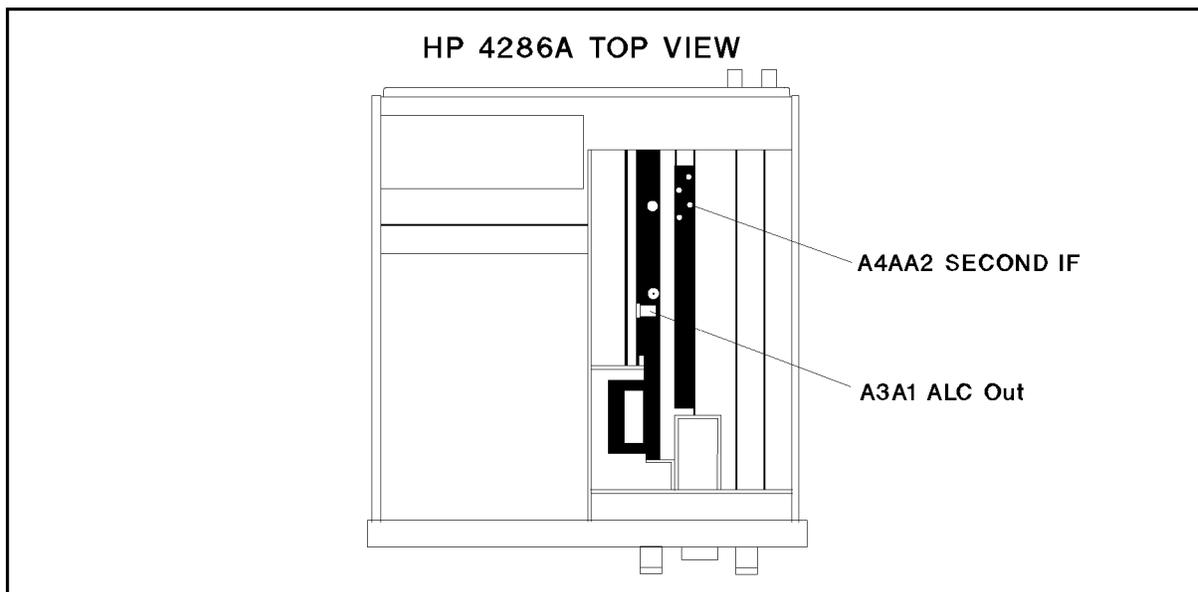

Figure 8-3. A6 GAIN Test Location
3. Turn the HP 4286A power off. Remove the "D" cable from the A3A1 ALC out connector, remove the "M" cable from the A4A2 second IF connector, then connect the "M" cable to the A3A1 ALC out connector. The connectors locations are shown in Figure 8-3.